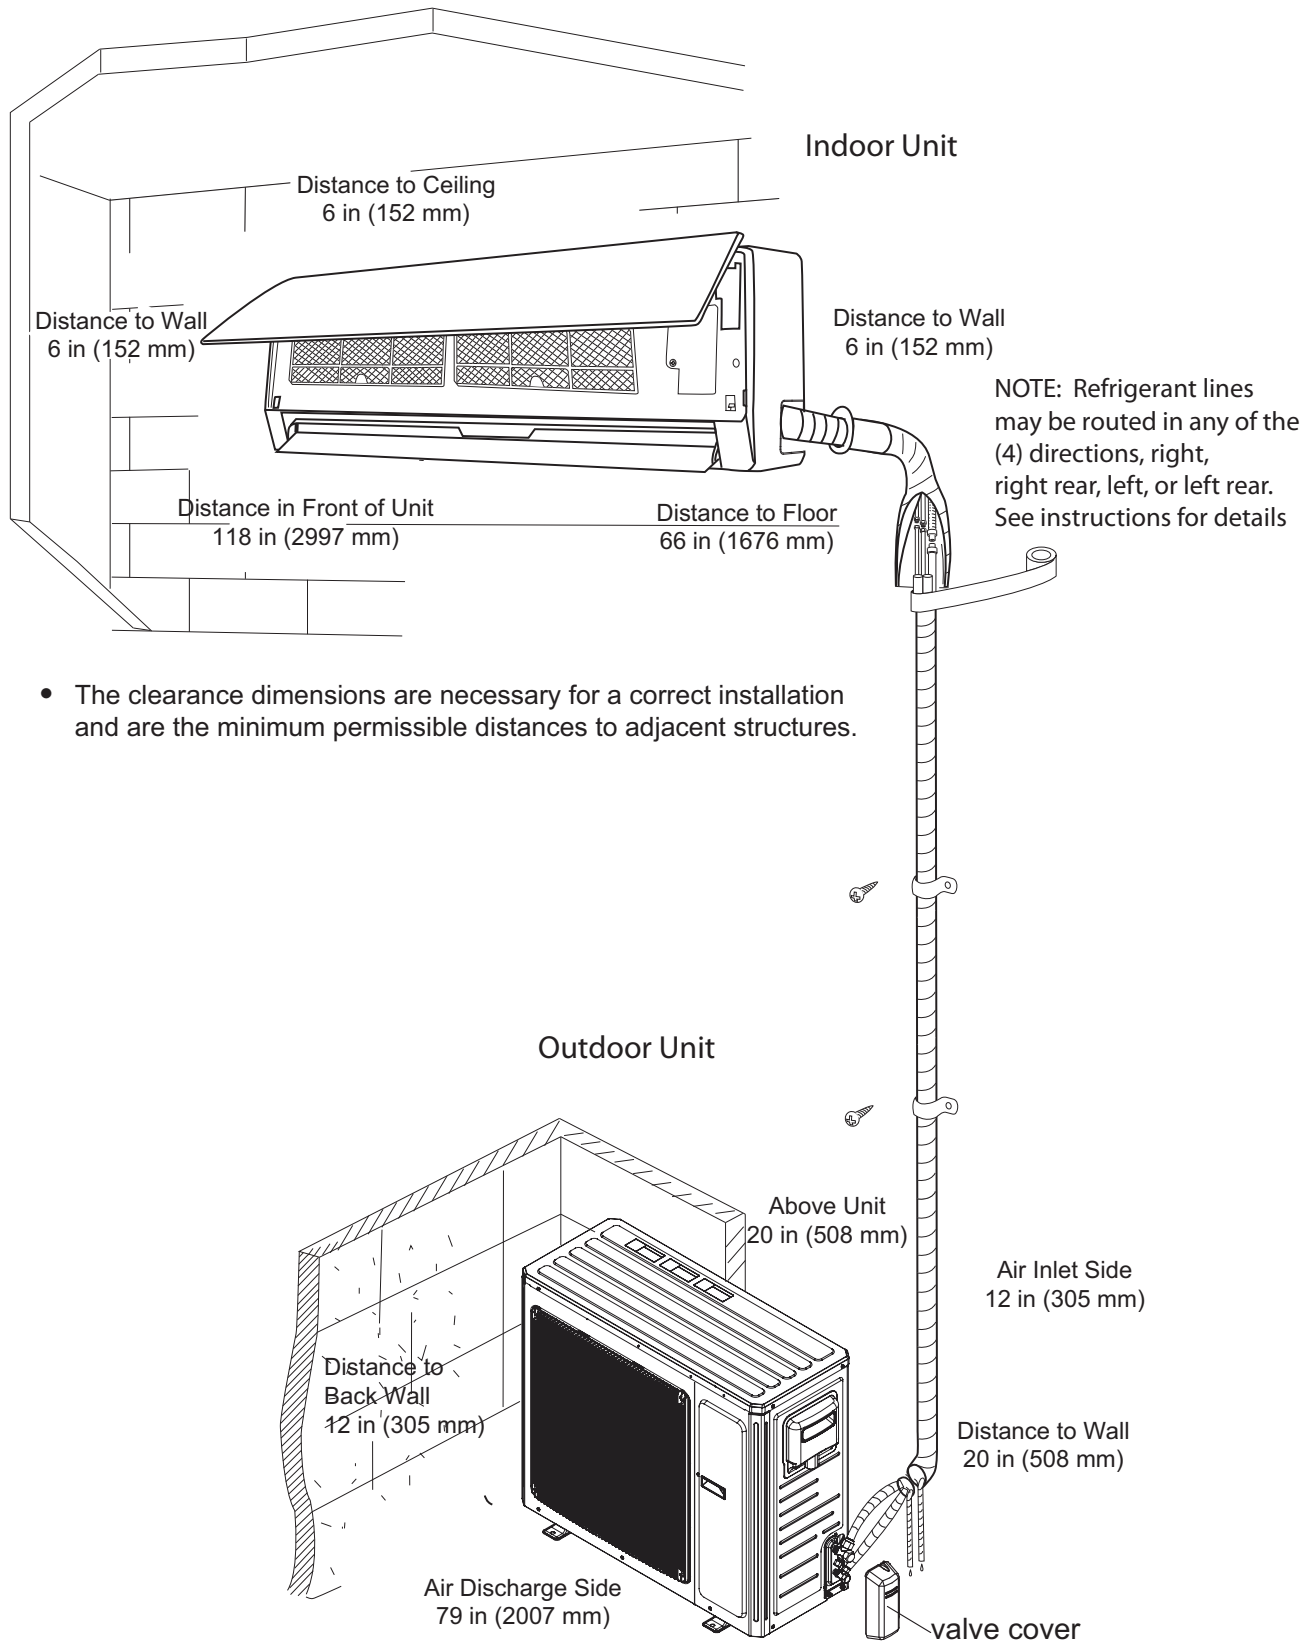

Fig. 6 – Indoor and Outdoor Unit Clearances
Allow sufficient space for airflow and servicing unit. See Fig. 6 for minimum required distances between unit and walls or ceilings.
- A location which provides appropriate clearances as outlined in Fig. 6. Be sure to leave enough distance to allow access for routine maintenance. The installation site should be 66 in (1676 mm) or more above the floor.
- A location which provides appropriate clearances as outlined in Fig. 6.